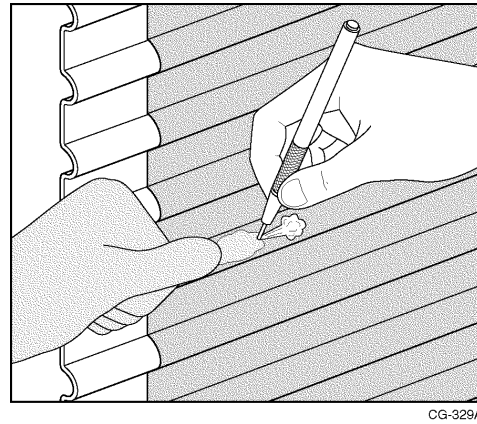

Figure 21 Remove Air Trapped in Valleys
4. Run your finger along the top and bottom of the corrugations to check for air bubbles. Remove any trapped air in the valleys. See Figure 21.